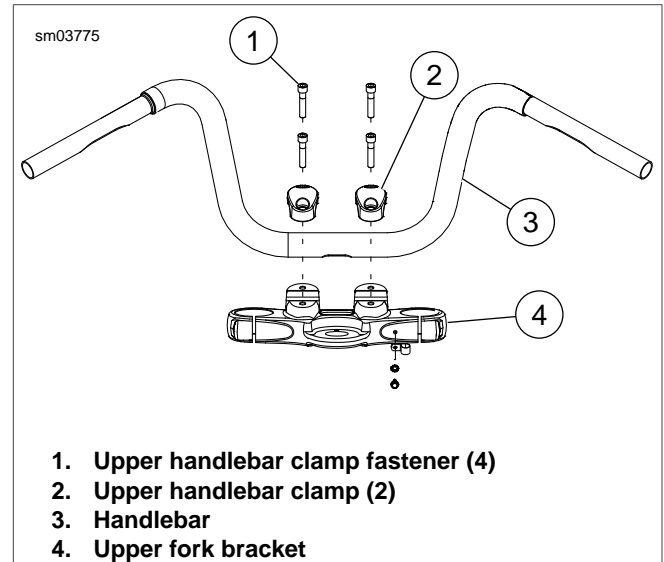
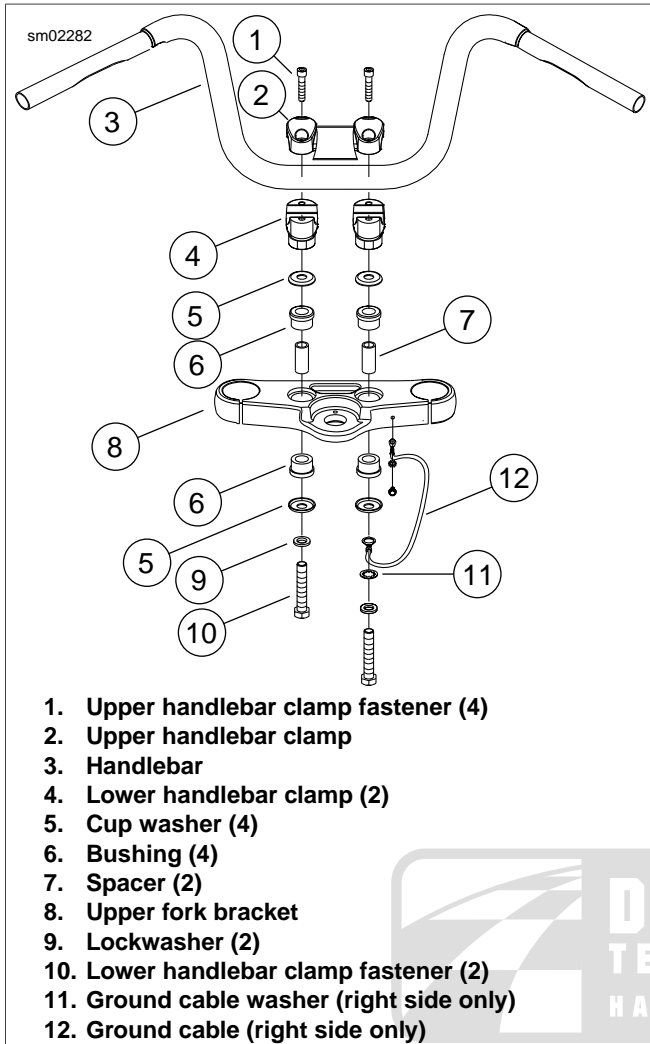

Figure 2-103. Handlebars: FXDB
Figure 2-104. Handlebars: FXDF
1. See Figure 2-103. Remove handlebar clamp fasteners (1).
2. Remove upper handlebar clamps (2).
3. Remove handlebar (3).
1. See Figure 2-104. Remove upper handlebar clamp fasteners (1) and upper handlebar clamp (2). Remove handlebar.
2. If removing lower handlebar clamps (4), remove two lower handlebar clamp fasteners (10), lockwashers (9), ground cable (12) and ground cable washer (11) and lower handlebar clamps from upper fork bracket (8). Replace bushings (6) if necessary.
11. **FXDF models:** see Figure 2-104. Install handlebars as follows:
- a. If lower handlebar clamps (4) were removed, install lockwashers (9) on lower handlebar clamp fasteners (10). Install ground cable (12) and ground cable washer (11) on right-side fastener.
- b. If removed, install cup washers (5), bushings (6) and spacers (7) in upper fork bracket (8).
- c. Slide lower handlebar clamp fasteners (10) through upper fork bracket.
- d. Loosely install lower handlebar clamps (4) to upper fork bracket using lower handlebar clamp fasteners.
- e. Place handlebars (3) on lower handlebar clamps. Install upper handlebar clamps (2). Install but do not tighten clamp fasteners (1).
12. **FXDB models:** see Figure 2-103. Place handlebars (3) on risers. Install upper handlebar clamps (2). Install but do not tighten clamp fasteners.
22. **FXDF models:** see Figure 2-104. Tighten handlebar clamps as follows:
- a. Tighten front and rear upper handlebar clamp fasteners (1) to 12-16 ft-lbs (16.3-21.7 Nm).
- b. Remove one lower handlebar clamp fastener (10). Apply LOCTITE HIGH STRENGTH THREADLOCKER 271 (red) to fastener threads.
23. **FXDB models:** see Figure 2-103. Tighten handlebar clamps as follows:
- a. Tighten two front fasteners (1) until cast-in spacers contact risers.
- b. Tighten two rear fasteners (2) to 12-16 ft-lbs (16.3-21.7 Nm).
- c. Tighten two front fasteners (1) to 12-16 ft-lbs (16.3-21.7 Nm).